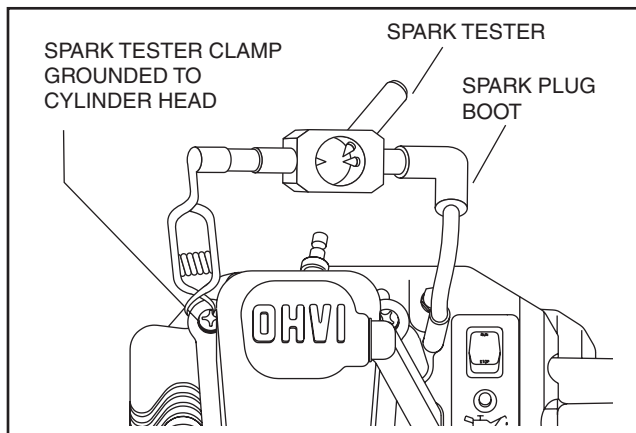

Figure 7-32. – Testing Ignition System
3. Ground the spark tester clamp by attaching to the cylinder head (see Figure 7-32).